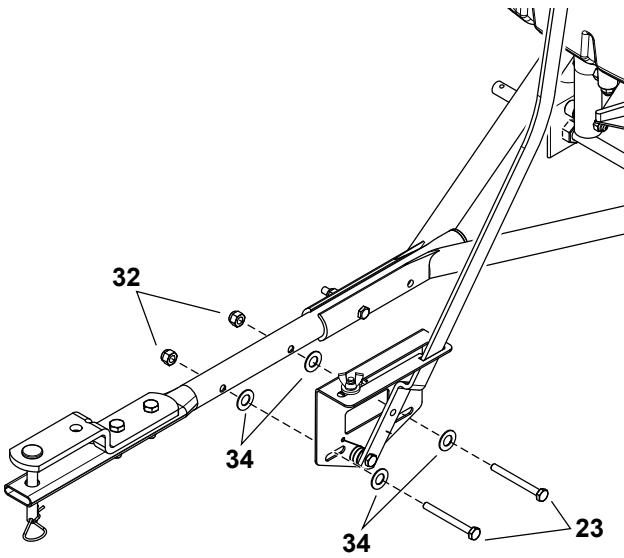

Figure 9
STEP 9: (SEE FIGURE 9)
- Attach the flow control bracket to the hitch tube using two 1/4" x 1-3/4" hex bolts (23), four 1/4" washers (34) and two 1/4" nylock nuts (32). **Do not tighten completely.**